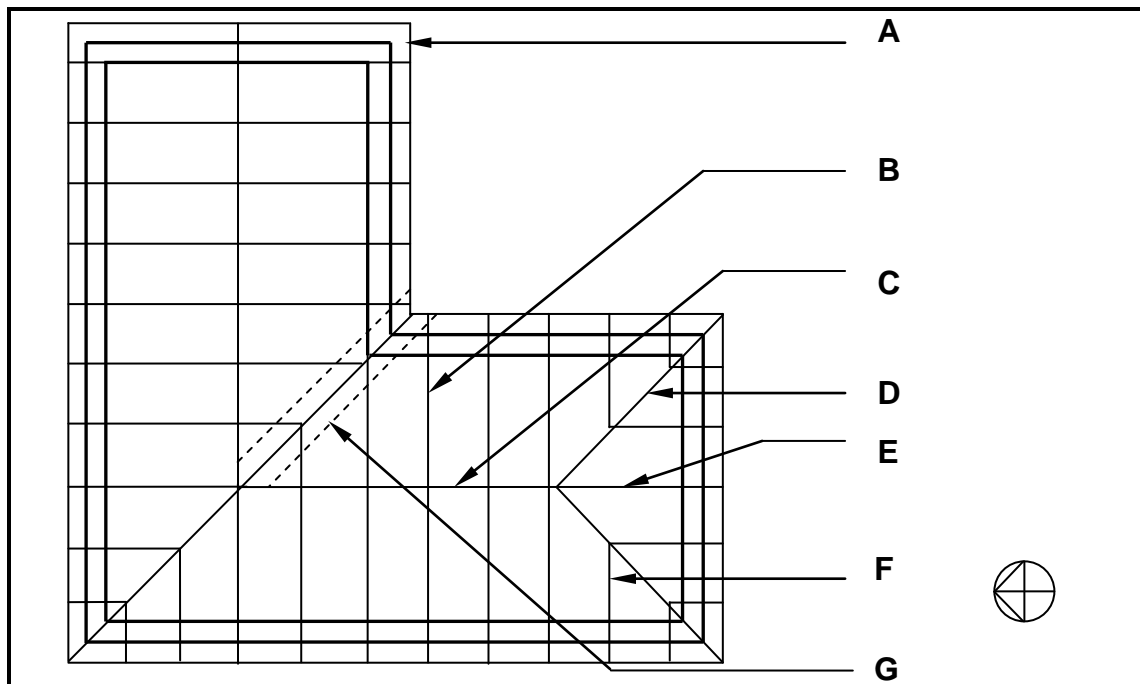

FIGURE 1.4
1.4 FIGURE 1.4 below shows the top view of a roof layout showing the roof trusses and the outer walls of an L-shaped building. Analyse the illustration and answer the questions that follow.